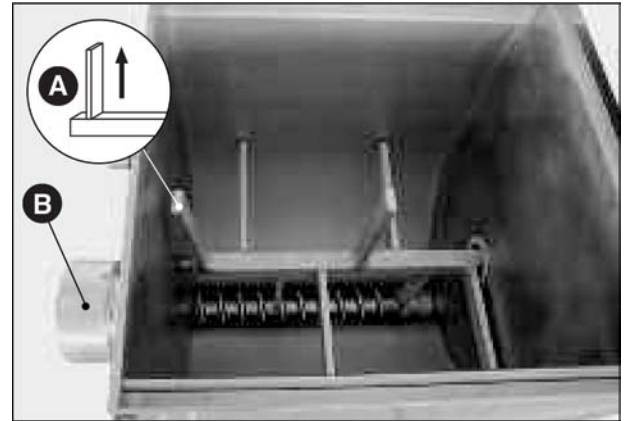

Fig. 29
You have to properly clean all the elements which are in contact with the product (Fig.29) protection cover, pool, mixer, Archimedean screw, drawplate, filter, ring nut and knife, when the product is still soft.
- Mixer: make sure the external shovel is in the upper vertical position (Fig.29 A) (only this position allows the disassembling of the piece). Disassemble the mixer by unscrewing the external movable support until releasing the mixer; unthread the shaft from its place and at the same time, rotate the external pin towards the top. If you want to assemble the piece follow these instructions vice versa. Line the central point of the shaft with the peg of the moving support (Fig.34 A); thereafter, screw the support, but without blocking it.